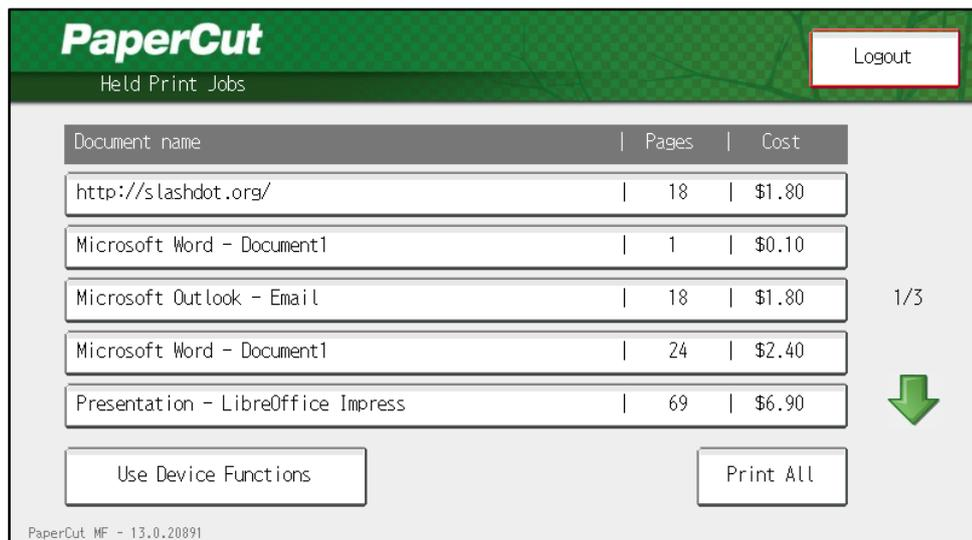

Figure 22: Print release screen.
2. The list of held print jobs is displayed (see Figure 22). Select the job to release by pressing on the job.